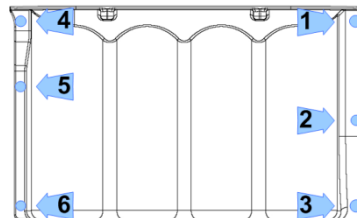

Figure 4 – Capacitor Cover Torque Sequence
1. Place the Capacitor Cover and secure it with the long screw (M5 x 20) and flat washer in position number three (3) as shown in the following figure. Use five (5) remaining screws to secure the cover. Fasten according to the sequence in Figure 4 (Capacitor Cover Torque Sequence). Follow the sequence twice.